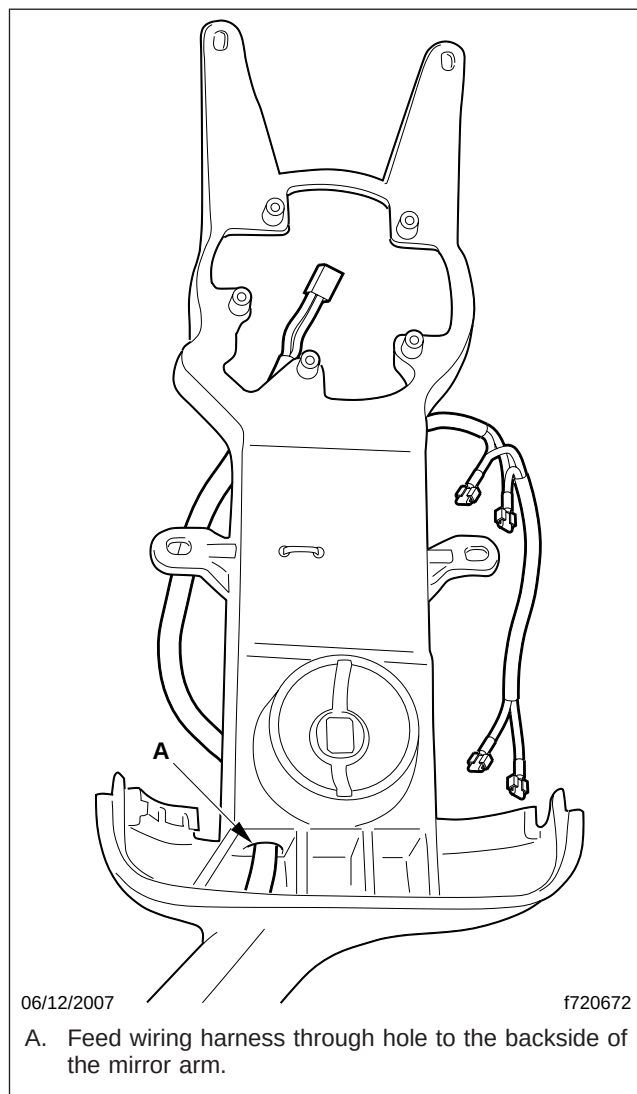

Fig. 4, Mirror Wiring Routing
10. Feed the wiring harness through the hole on the lower end of the mirror shell, as shown in Fig. 4.